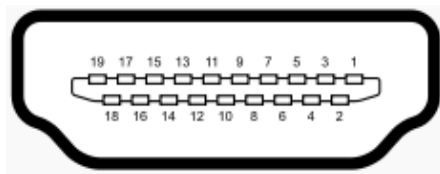

Figure 3-22: HDMI Connector
- CN Pinouts:** See **Table 3-24** and **Figure 3-22**